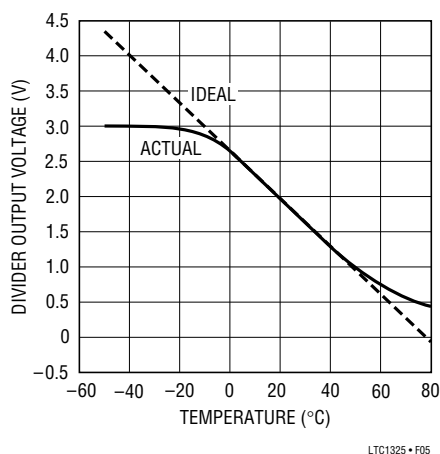

Figure 5. ERT-D2FHL103S Divider
Both values of  $\beta$  are close to each other. Substituting  $\beta = 4085\text{k}$  into equation (3) gives  $R_L = 10\text{k} [4085 - (2 \times 298)]/[4085 + (2 \times 298)] = 7.45\text{k}$ . The nearest 1% resistor value is 7.5k. Figure 5 shows a plot of  $V_{DIV}(T)$  measured at various temperatures for this thermistor with a 7.5k  $R_L$ .
Note that the discharge limits are wider than the charge limits. To prolong battery life, manufacturers generally recommend discharge temperatures that are similar to the charge limits. For this reason, the LTC1325 recognizes the same LTF and HTF limits in both charge and discharge modes. MCV should be set just above the charging voltage per cell given in battery specifications. The voltage at the LTF and HTF pins should be set to correspond to narrowest temperature range. These are typically 15°C and 45°C. The corresponding voltages may be read from the thermistor divider temperature curve such as that shown in Figure 5. For this thermistor, it works out to be about for 2.12V for LTF and for 1.13V for HTF. The MCV may be conveniently tied to LTF since MCV is typically 2V. If desired, external analog switches under microprocessor control may be used to vary the LTF, HTF and MCV voltages between modes or for different charge rates. The values of R1, R2, R3 and R4 in Figure 3 can be calculated from the following equations: